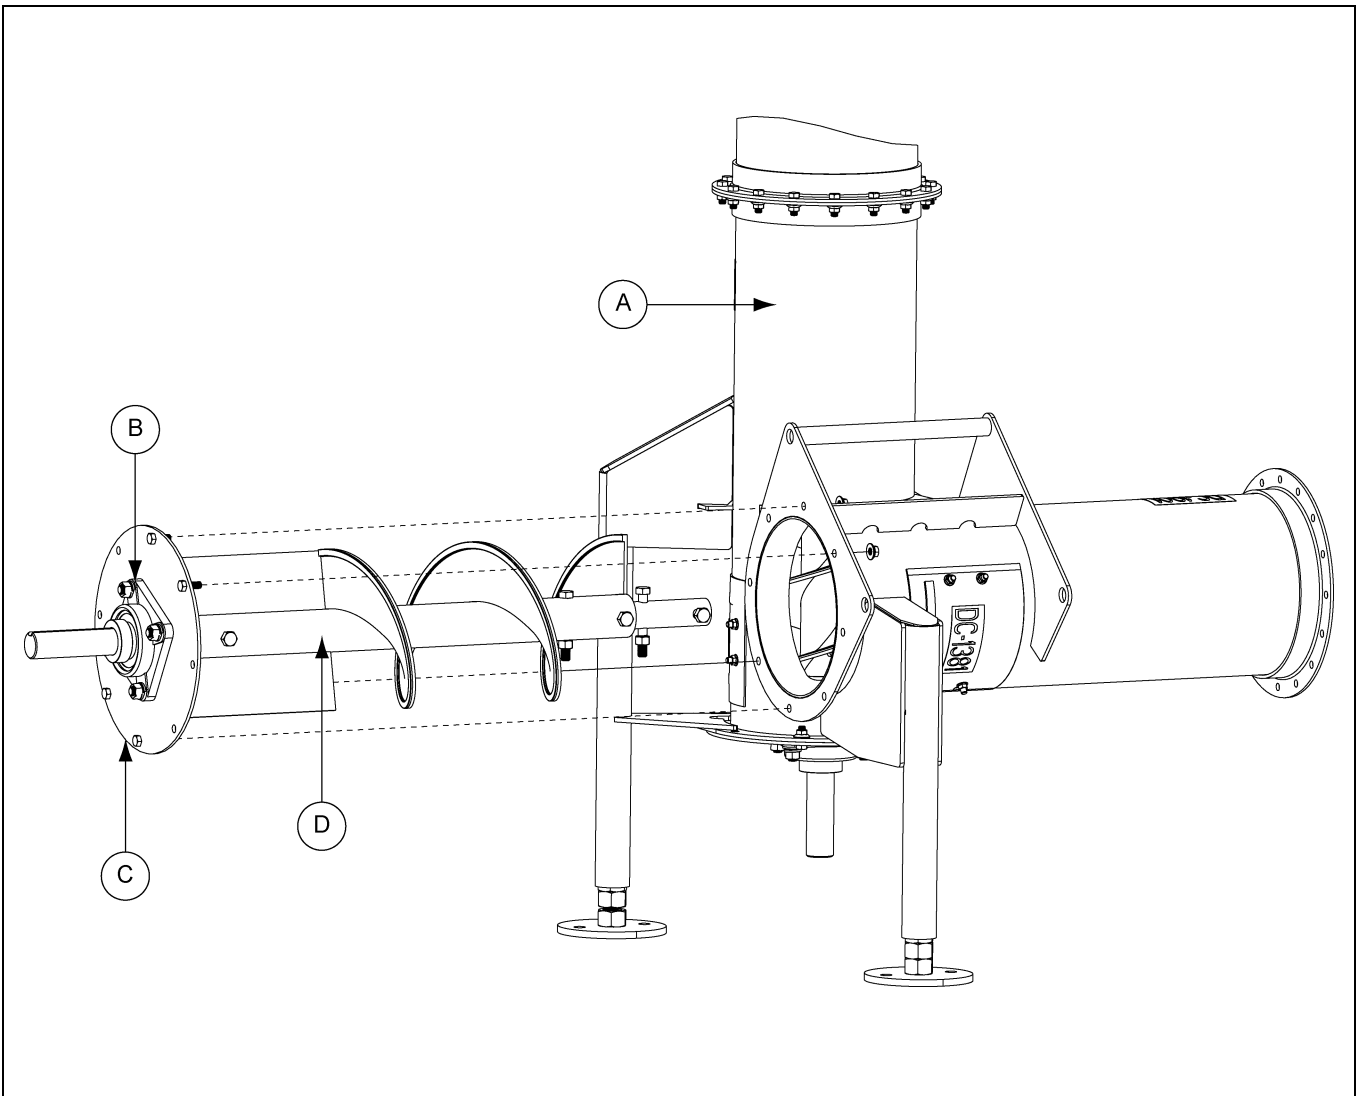

Figure 3A
A. Unbolt the *horizontal bearing plate (C)* from the *vertical auger assembly (A)*. (See Figure 3A.) Set aside the *bearing plate (C)* with the *bearing (B)*, connecting hardware and the *horizontal flight (D)* until the auger is attached to the bin.